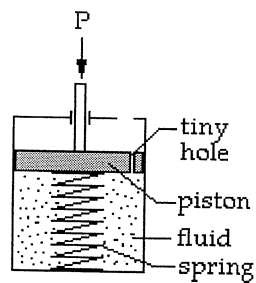

Fig. 6D
- D. Fig. 6D shows an analogy, which is used to explain primary consolidation of a clay soil when subjected to a vertical load. Explain how primary consolidation is explained using the process described in Fig. 6D.